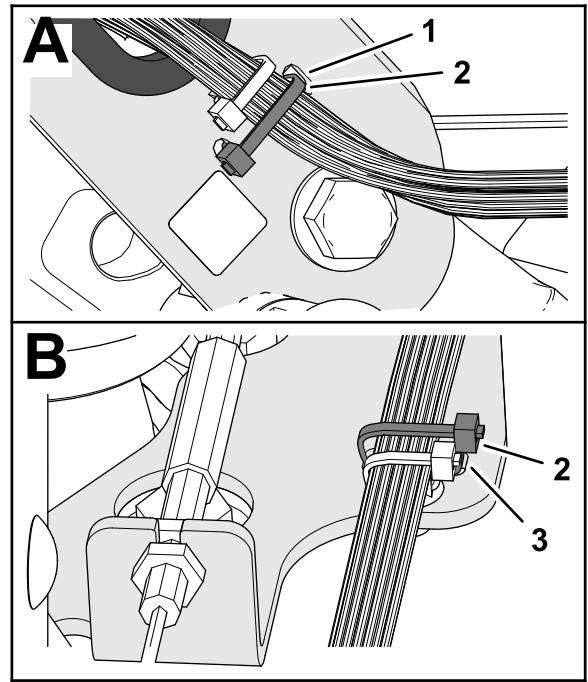

**Figure 10**
4. Insert the push-in anchor of the machine harness into the hole in the handle-bar channel (Figure 10).